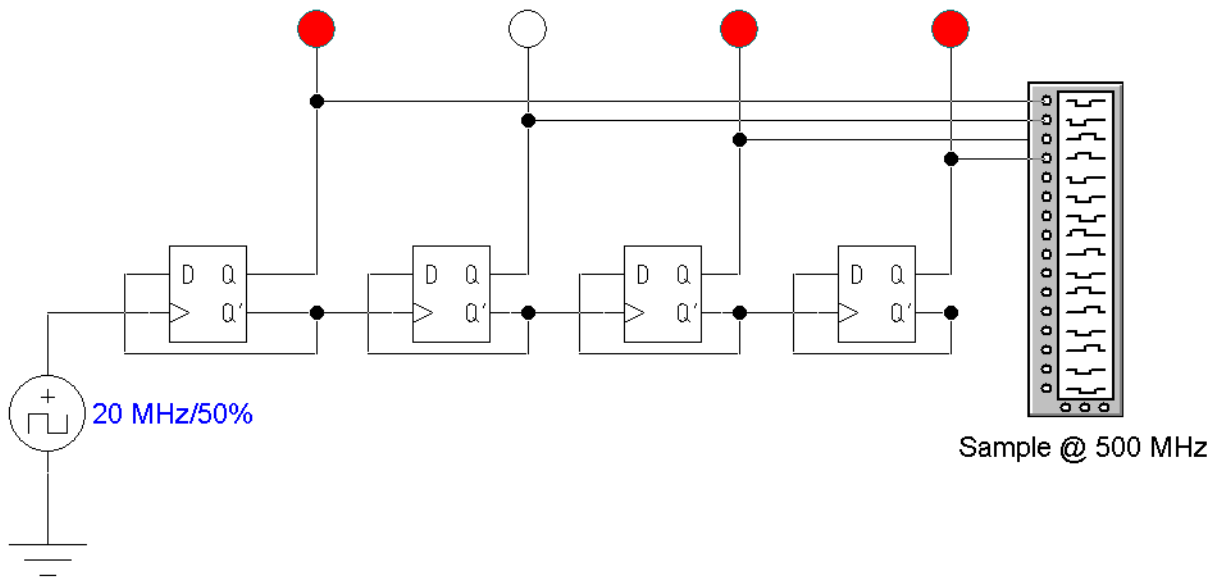

Figure 3.2: A binary counter
- ❓ Determine the propagation delay for each of the flip/flops and then the total propagation delay of the entire ripple counter of Fig.3.2. What is the maximum clock rate that should be applied to this circuit? How do the outputs behave as the circuit is *overclocked* beyond this maximum frequency? Explain this behaviour in terms of propagation delays.